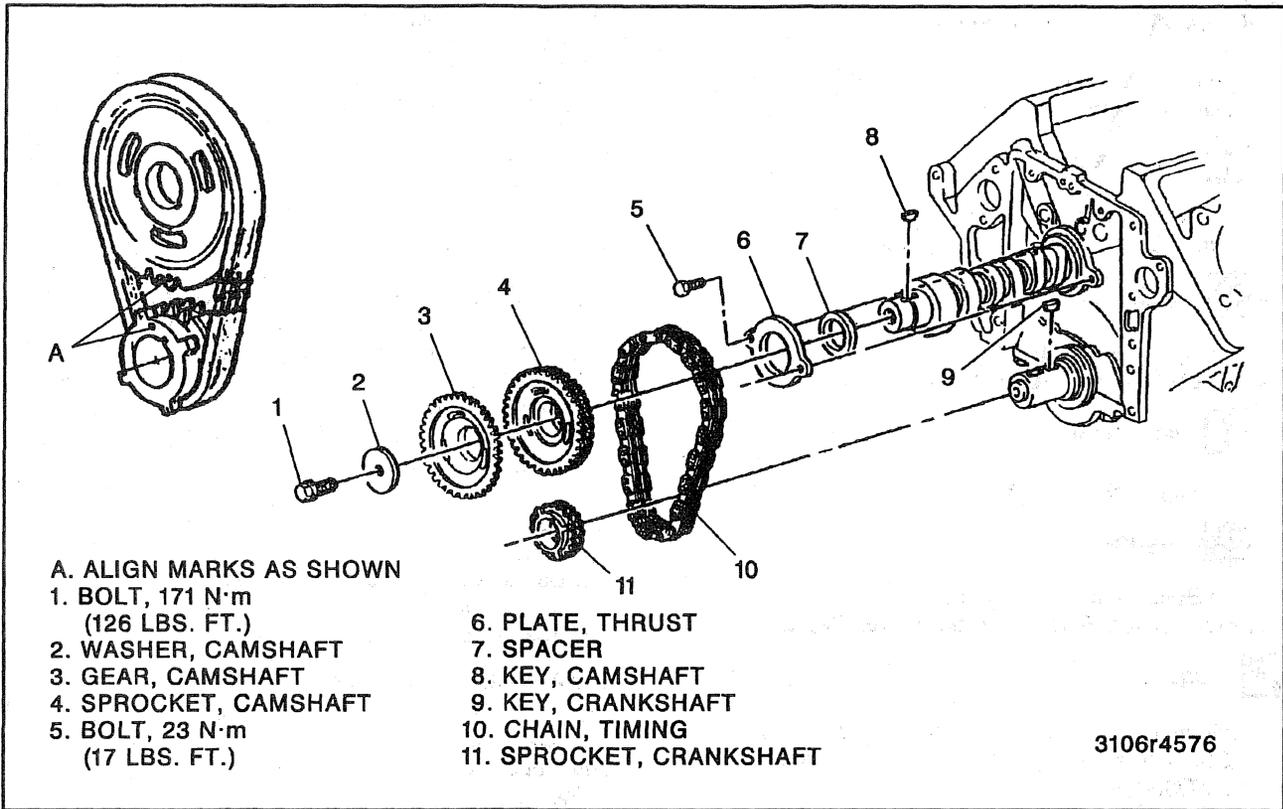

Figure 24—Camshaft and Components
Remove or Disconnect (Figure 24)
- Align the timing marks (figure 24).
**Install or Connect (Figure 24)**
**Remove or Disconnect (Figure 24)**